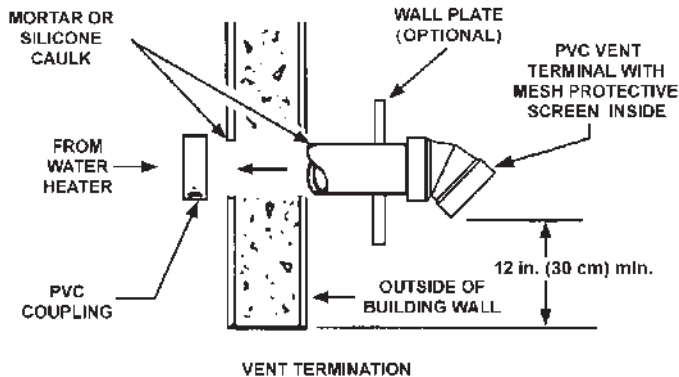

Figure 18. Sidewall Vent Termination
Instructions on proper installation through a sidewall are provided in *Figure 18* (page 22).
- Slide the pipe through the wall and insert into the coupling on the other side of the wall, making sure that the vent terminal ends up pointed in the correct position. See *Figure 18*.
It is recommended that the completion of the venting system start at the blower assembly and run to the coupling on the inside wall of the vent terminal. See *Figure 18*.